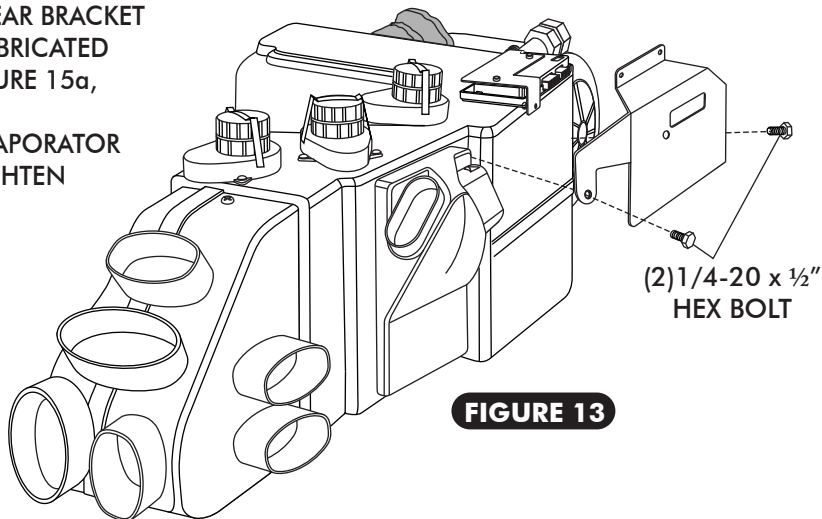

FIGURE 13
- ☐ INSTALL FRONT MOUNTING BRACKET ON EVAPORATOR USING (2) 1/4-20 x 1/2" HEX BOLTS, AND TIGHTEN AS SHOWN IN FIGURE 13, BELOW.